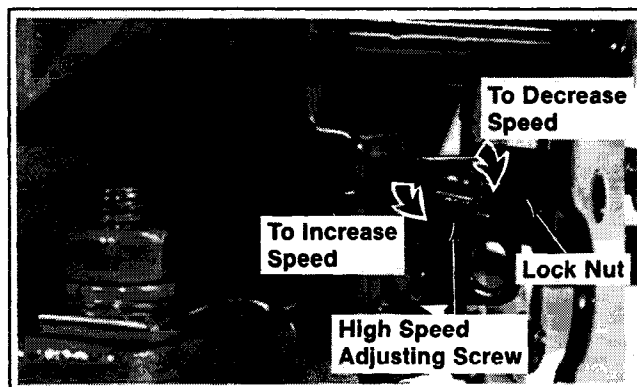

Figure 6-45. High Speed Adjusting Screw.
1. Loosen the lock nut on high speed adjusting screw. Refer to Figures 6-45.